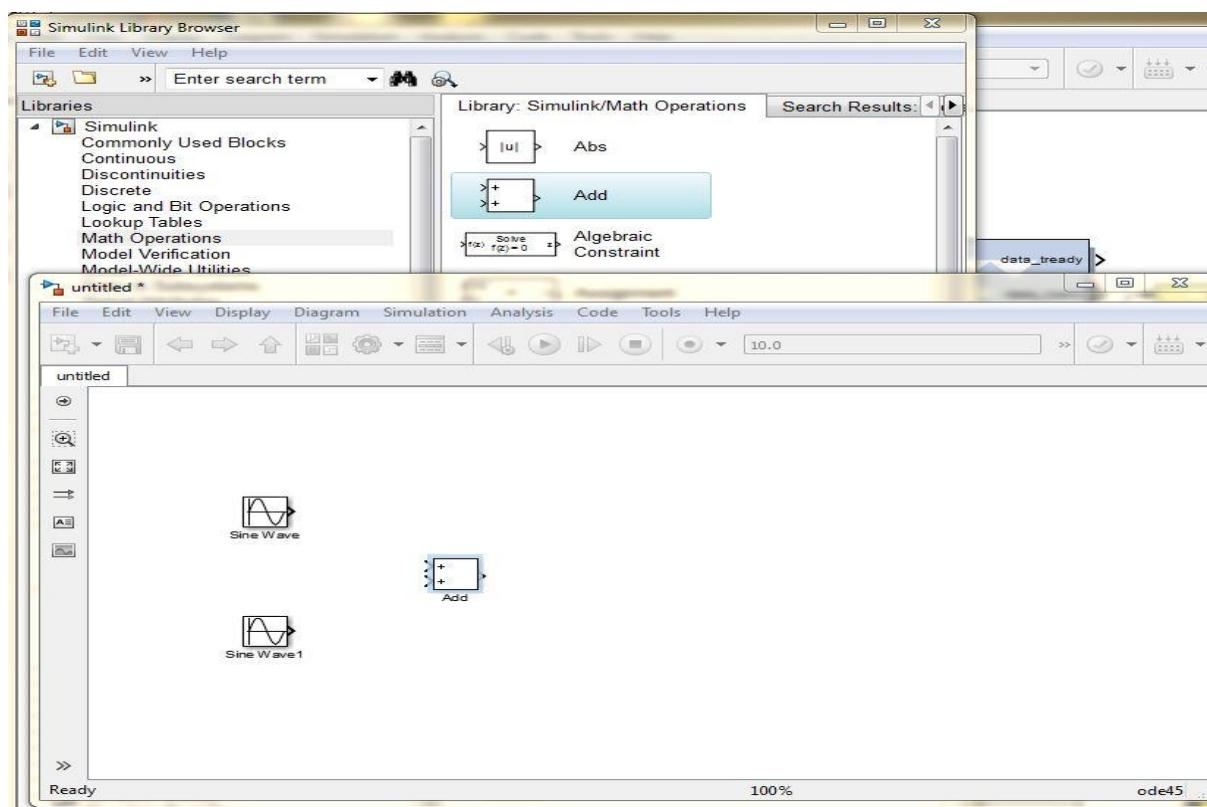

Figure 3: Add block addition.
4. Add *Add* block *Simulink > Math Operations > Add* as shown in figure 3.